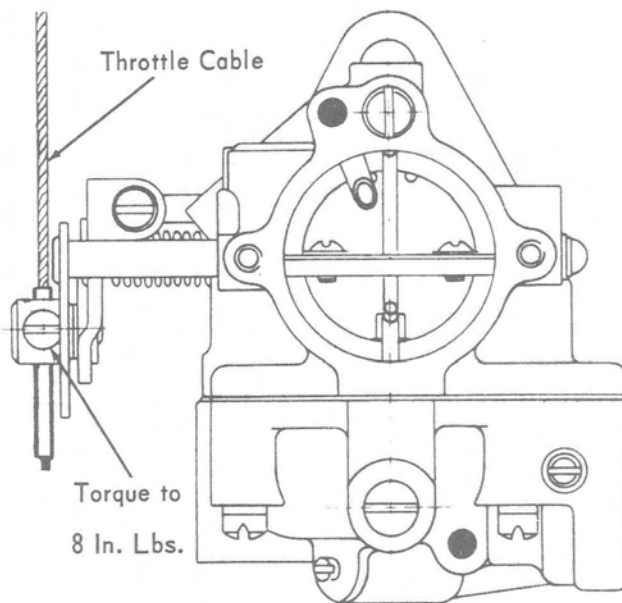

Figure 7. Adjusting Throttle Cable
- c. Remove slack from cable by pulling core wire thru cable anchor and torque anchor set screw to 8 in. lbs. (Figure 7)